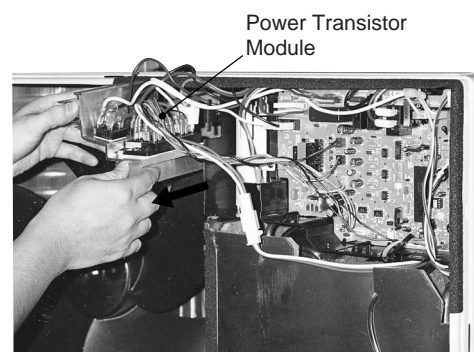

Fig. 18
2. Removing the screw on the cover and pull out the Power transistor module. (Fig. 18 and 19)